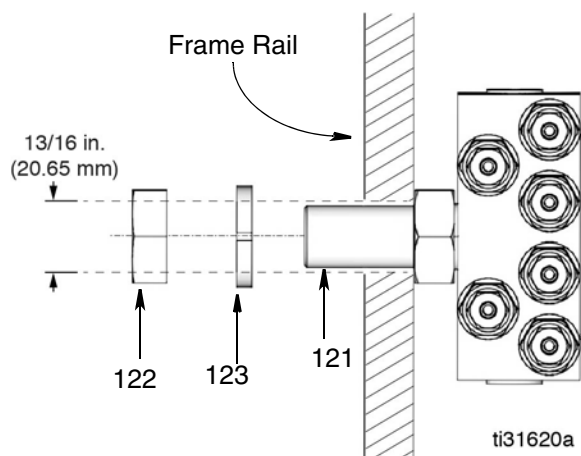

FIG. 40
2. Slide the manifold stem (121) through the hole (be sure the injectors are facing the lubrication points) (FIG. 40).
3. Slide washer (123) over the stem and screw nut (122) onto the stem (FIG. 40). Torque nut to 22 ft-lbs (29.83 N•m).